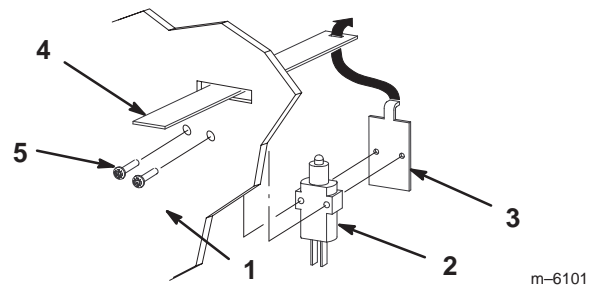

Figure 7
1. Reach beneath the rear of the tractor and hold the full bag switch and switch plate while removing the 2 screws on the rear panel (Fig. 7).
2. Hold the switch plate against the switch and slide the full bag lever into the rectangular slot on the rear panel of the tractor. Hook the switch plate onto the lever (Fig. 7).
3. Secure the switch and switch plate to the rear panel with the 2 screws (Fig. 7).